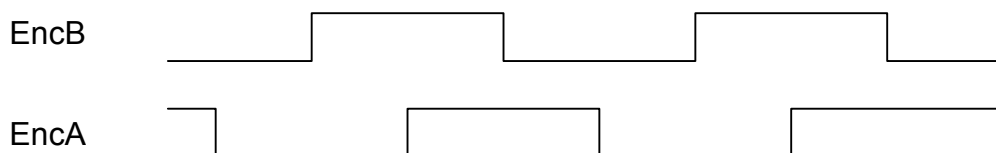

Figure 23. Sample Encoder A and B Signal Timing
- Verify that the B signal leads the A signal as shown in Figure 23.